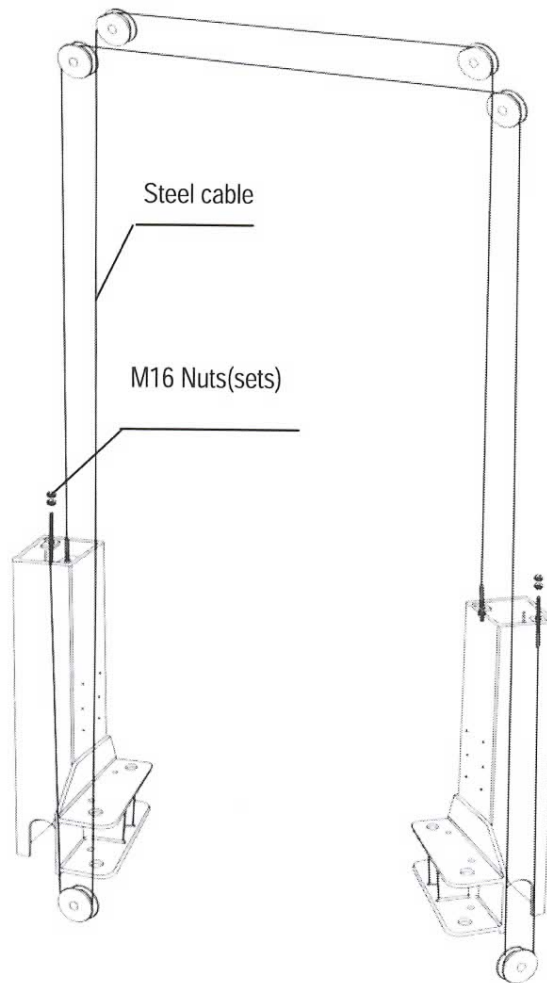

Fig. 9
- Raise the two carriages to the safety locking position (make sure that the safety locks on each column are fully engaged before attempting to install cables), and two carriages are in equal position from the floor (same height). Install the two steel cables as shown in Fig. 9.